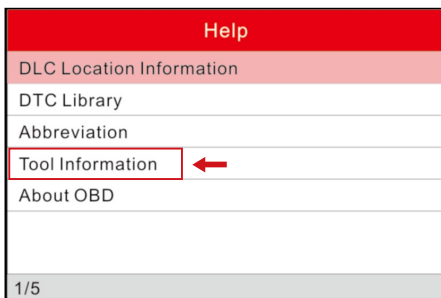

Figure 5
- Select **Tool Information** (refer to Figure 5), press **OK** button to enter.